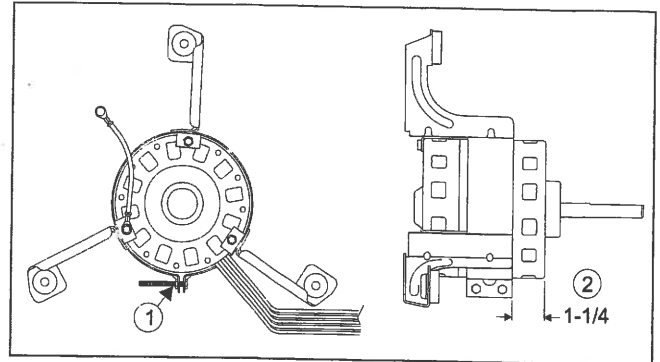

FIGURE 1
1. Wrap the motor mount assembly around the motor. Assemble screws and KEP nuts from hardware bag to motor mount assembly and tighten finger tight. See Figure 1.
2. Position end of motor 1/4" from motor mount assembly. See Figure 1. Securely tighten screws and KEP nuts.